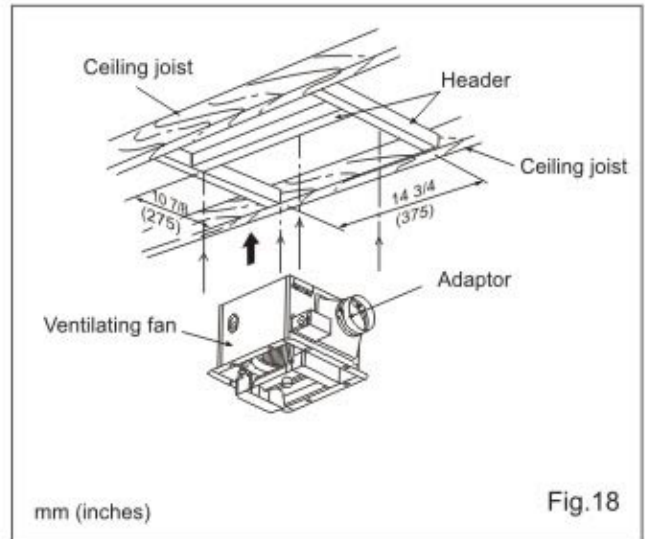
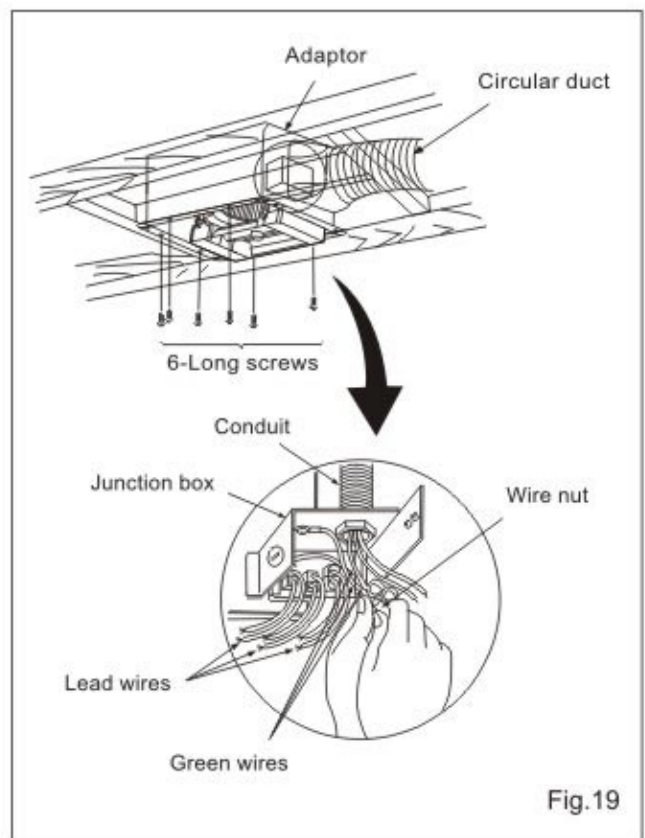

Fig.18
Fig.19
3. Install the ventilating fan and secure with screws. (Fig.18, Fig.19)
Remove the junction box cover and secure conduit to junction box knockout hole (7/8 inch). (Fig.19)